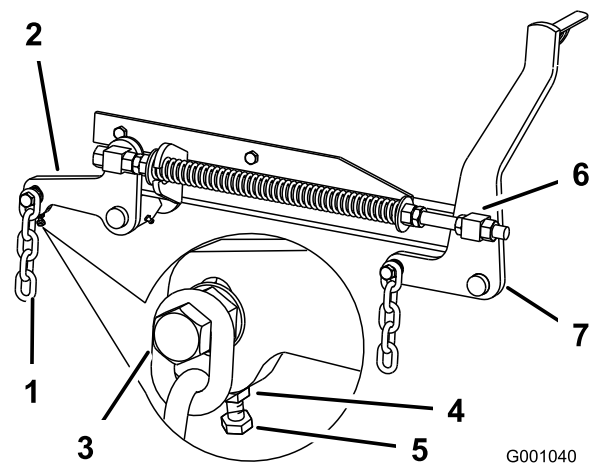

Figure 82
7. If the measurements at positions **B** or **C** are not correct, loosen the bolt attaching the rear chain to the rear support arm (Figure 82).
- Loosen the jam nut under the rear support arm and adjust the adjustment bolt to get a measurement of 3-1/8 to 3-1/4 inches (80 to 83 mm) (Figure 82).
- Loosen the front swivel jam nuts, at the front of the right and left swivels, approximately a 1/2 inch (13 mm) (Figure 82).
(6 to 10 mm) lower in front at **A** than in the rear at **B** (Figure 82).